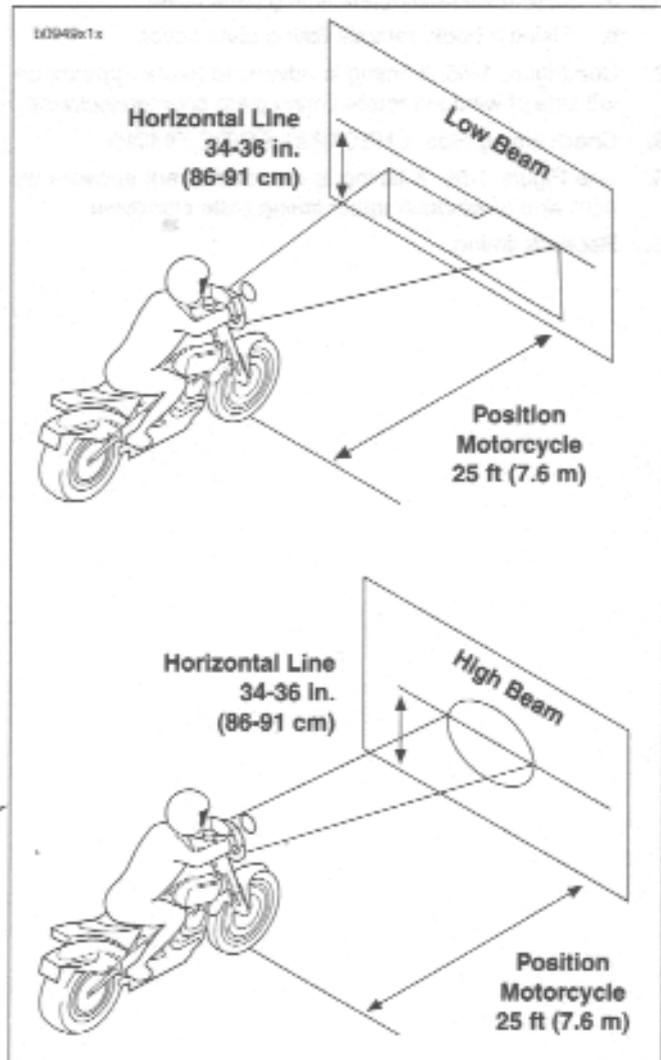

Figure 1-57. Checking Headlight Alignment
2. See Figure 1-57. Position motorcycle 25 ft (7.6 m) away from a screen or wall by measure the distance from the front axle to the screen/wall.
c. Check that the correct pattern of light is a double rectangular pattern and is aligned with the horizontal line as shown in Figure 1-57.
b. Check that the correct pattern of light is a circular pattern and is centered on the horizontal line as shown in Figure 1-57.